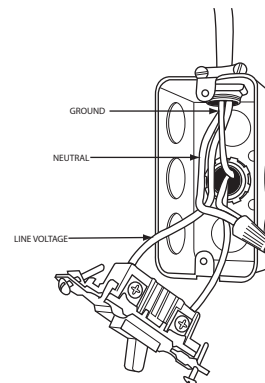

Fig. 27 – Field-Supplied Electrical Box on Furnace Casing A190278
1. Refer to Fig. 27 when installing an electrical box.